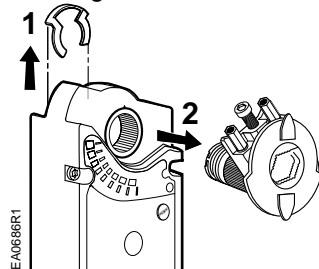

Figure 9.
2. Remove the clip and shaft adapter from the actuator. See Figure 9.